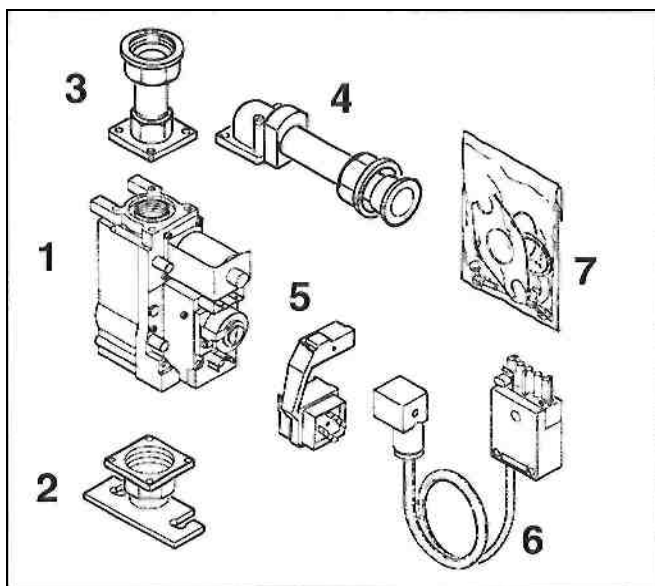
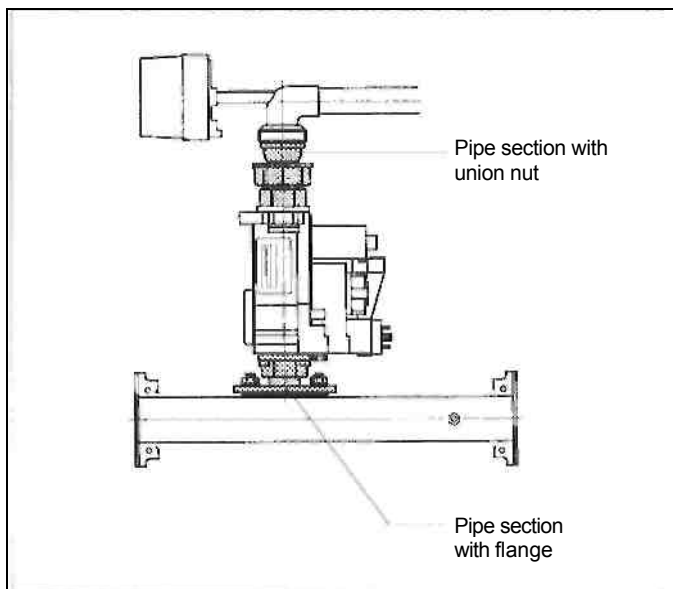
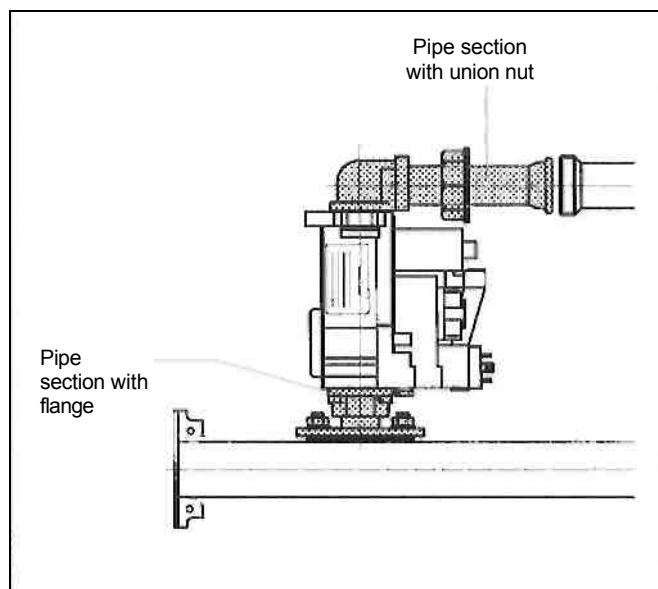

Fig. 3: Set 3
Fig. 7: G224 L as example with VR 4605 (Set 3);
Fig. 8: G324 L as example with VR 4605 (Set 3);
- Install pipe section with flange (Fig. 3, Pos. 2) between Gas valve and gas distributor bar (Fig. 7).
- Install pipe section with union nut, 63 long, (Fig. 3, Pos. 3) vertically between Gas valve and gas connection pipe (Fig. 7).
- Install pipe section with flange (Fig. 3, Pos. 2) between Gas valve and gas distributor bar (Fig. 8).
- Install pipe section with union nut, 136 long, (Fig. 3, Pos. 4) horizontally between Gas valve and gas connection pipe (Fig. 8).